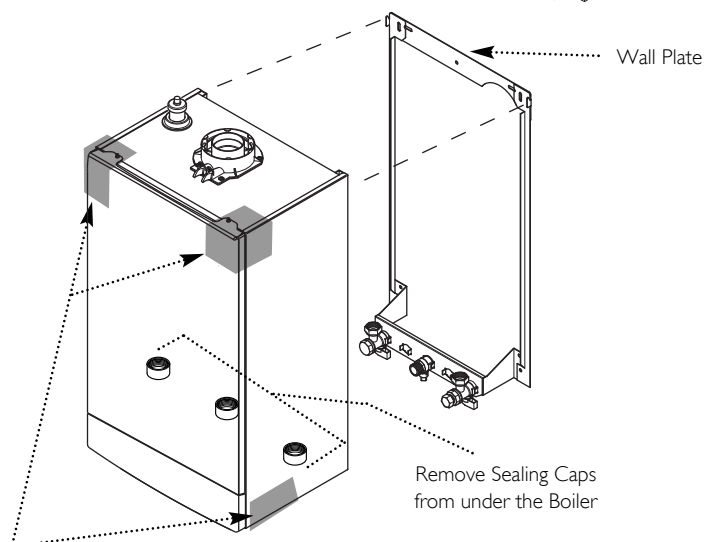

Fig. 43
1. Lift the boiler using the Lifting Points as shown by the shaded areas (Fig. 43). The boiler should be lifted by TWO PEOPLE. Engage the slots at the top rear of the boiler on the wall plate (Fig. 42) (see **Safe Manual Handling** page 5).
2. Ease the boiler forwards and remove the sealing caps from the boiler connections (Fig. 43).